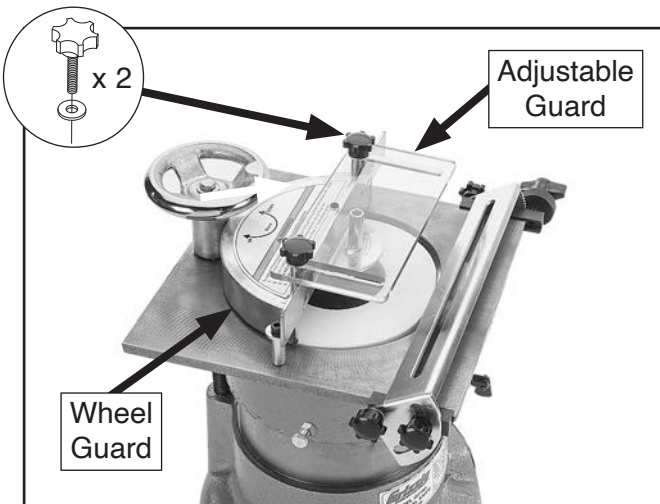

Figure 9. Adjustable guard installed (slide bar installed).
2. Install adjustable guard on pre-installed wheel guard using (2) 1/4"-20 x 1/2" star knobs and (2) 1/4" flat washers, as shown in **Figure 9**.